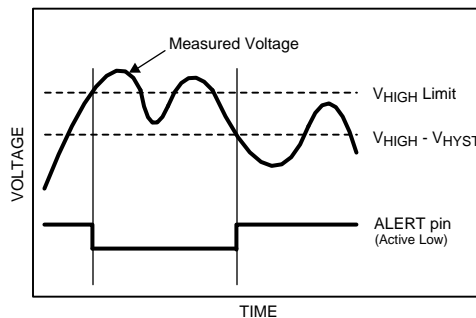

Figure 27. Alert condition cleared when measured voltage crosses  $V_{HIGH} - V_{HYST}$
The ALERT function is an "out-of-range" indicator. At the end of every conversion, the measured voltage is compared to the values in the  $V_{HIGH}$  and  $V_{LOW}$  registers. If the measured voltage exceeds the value stored in  $V_{HIGH}$  or falls below the value stored in  $V_{LOW}$ , an alert condition occurs. The Alert condition is indicated in up to three places. First, the alert condition always causes either or both of the alert flags in the Alert Status register to go high. If the measured voltage exceeds the  $V_{HIGH}$  limit, the Over Range Alert Flag is set. If the measured voltage falls below the  $V_{LOW}$  limit, the Under Range Alert Flag is set. Second, if the Alert Flag Enable bit is set in the Configuration register, the alert condition also sets the MSB of the Conversion Result register. Third, if the Alert Pin Enable bit is set in the Configuration register, the ALERT output becomes active (see Figure 27). The ALERT output (ADC081S021 only) can be configured as an active high or active low output via the Polarity bit in the Configuration register. If the Polarity bit is cleared, the ALERT output is configured as active low. If the Polarity bit is set, the ALERT output is configured as active high.
2. The measured voltage goes below the programmed  $V_{HIGH}$  limit minus the programmed  $V_{HYST}$  value and the Alert Hold bit is cleared in the Configuration register. (see Figure 27). If the Alert Hold bit is set, the alert condition persists and only clears when a one is written to the Over Range Alert Flag bit.